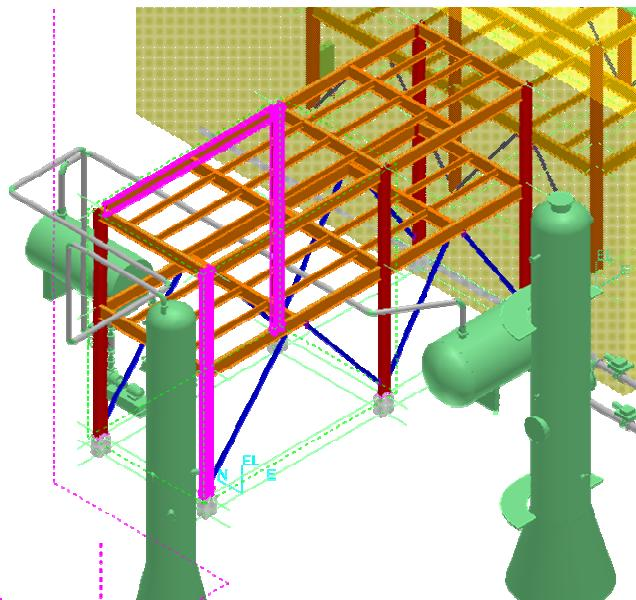

Figure 26: Selecting the Objects to Place the Volume
4. Select the objects where you want to place the volume, as shown in Figure 26. Notice that as you click objects, the volume expands to include those objects.